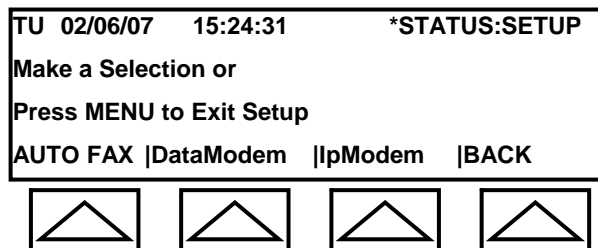

Fig. 4-14m: Modem Submenu
The screen will appear as in Figure 4-14m.
5. Select BACK to return to previous screen or select MORE to return to Figure 4-14m.